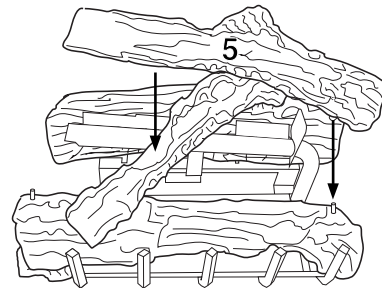

Figure 27 - Installing Log #5, Model CD42M-A
5. Place log #5 (top log) onto right pin of front log (#2) and smooth surface of rear log (#3). Make sure it is seated properly (see Figure 27).